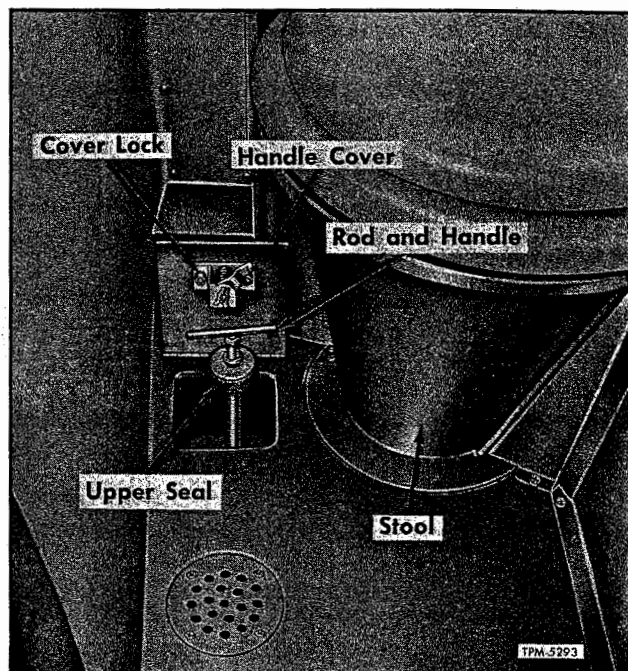

Figure 36—Chemical Tank Drain Plug Handle and Rod
2. On the floor of lavatory compartment, unlock and open the chemical tank drain plug handle cover (fig. 36). Pull handle up approximately six inches as shown; this action lifts large rubber drain plug (fig. 34) from opening in bottom of tank and permits tank to empty.
1. Press chemical tank drain plug handle (fig. 36) down until handle rod upper seal is seated firmly to top of tank. This action will position drain plug (fig. 34) into tank drain opening. Close handle cover and lock.